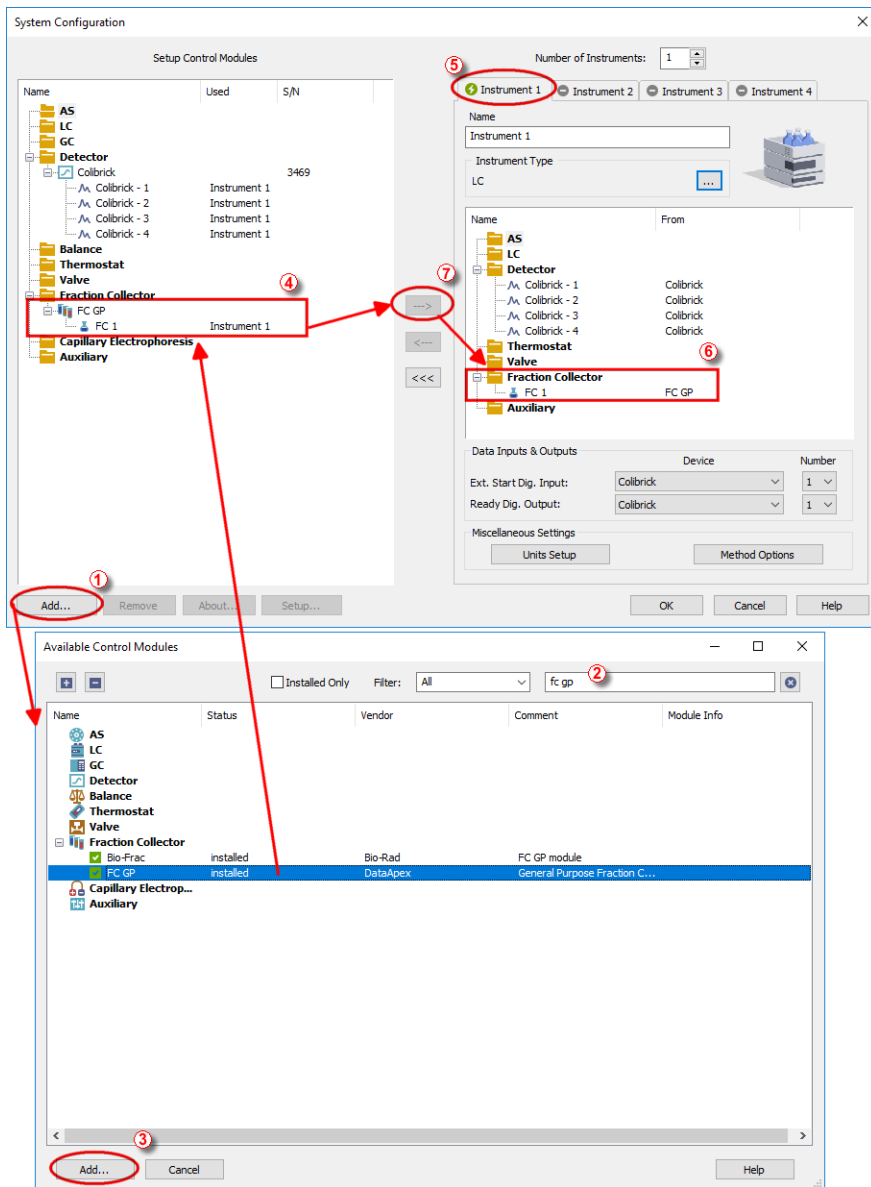

Fig 2: System Configuration - adding the FC GP
- Press the **Add** button ① (See **Fig 2** on pg 4.) to invoke the **Available Control Modules** dialog.
- You can specify the searching filter ② to simplify the finding of the driver.
- Select the **FC GP** and press the **Add** ③ button.